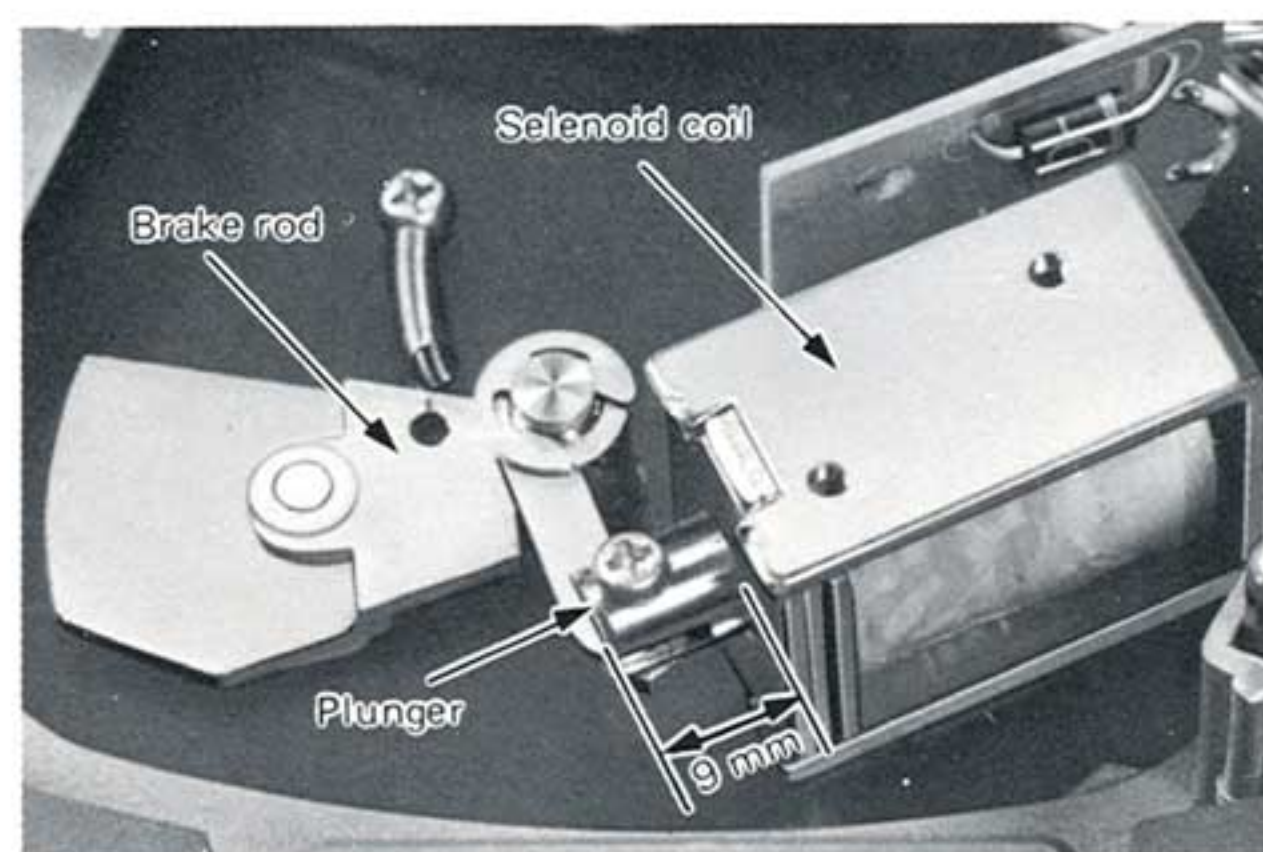
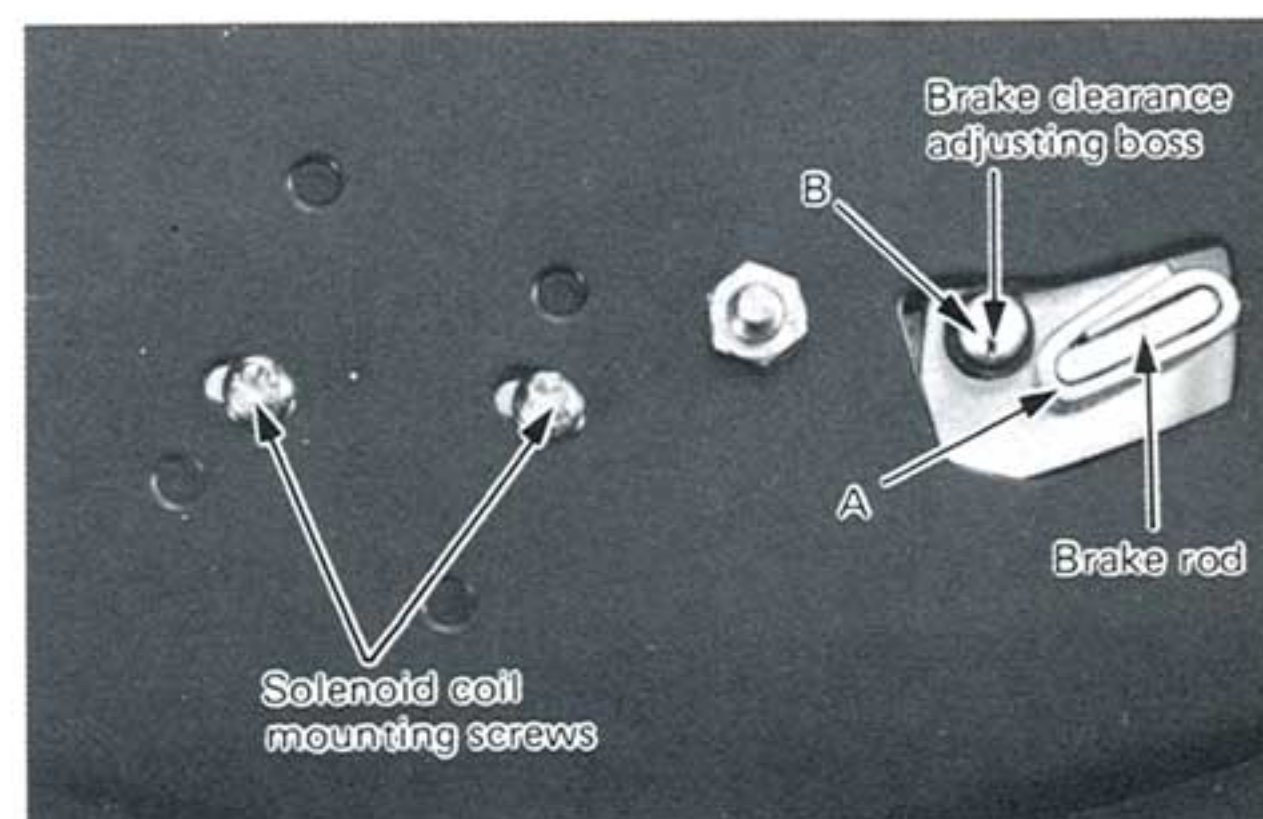

Fig. 14
Fig. 15
3. Glue the brake rod to the brake lining at the double lining position (as shown by arrow A in Fig. 15) with rubber cement.
1. Fit the brake lining inside the platter (The function is the same as a normal brake). Slightly loosen the 2 solenoid mounting screws, then adjust the solenoid coil position until the clearance between the solenoid coil end and the plunger head is 9 mm. (Refer to Fig. 14.) After the adjustment, be sure to re-tighten the screws firmly (Refer to Fig. 15).
- **How to use the brake clearance adjusting boss B. (Refer to Fig. 15)**